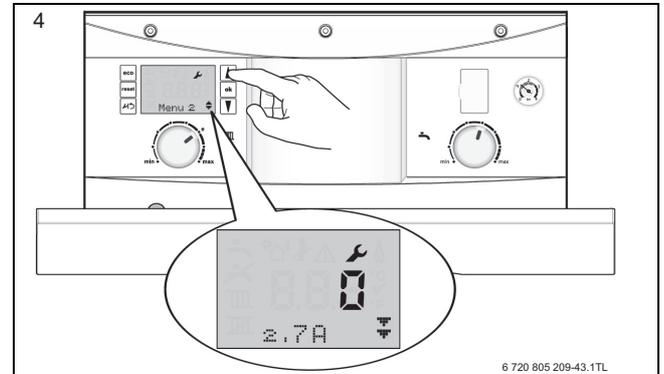

Fig. 74
1. Select the desired menu option using the arrow buttons (refer to figure 74) and press the OK button, the option will flash.